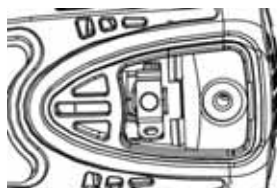

Fig. 3
- C. New carbon brushes are replaced well. (See Fig. 3)